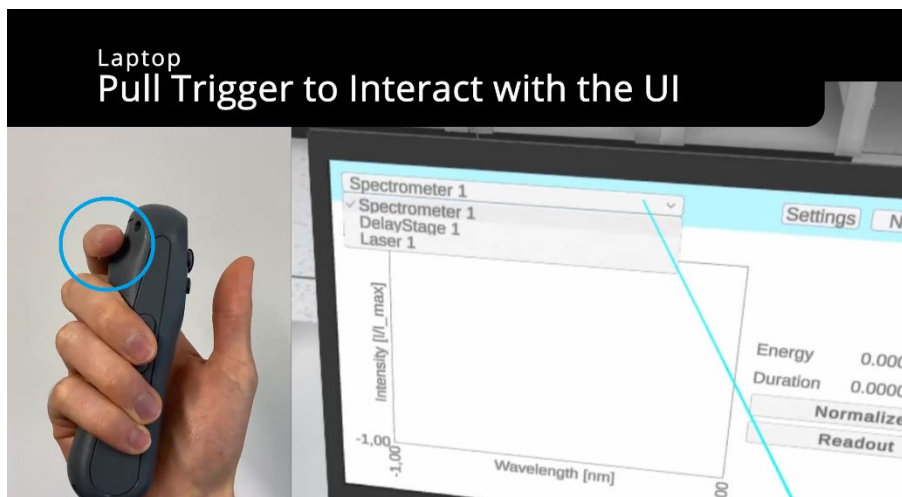

Figure 4. Interact with a user interface (UI) using the trigger button. UI elements can be selected by a light blue pointer.
The **trigger button** is also used to interact with **user interfaces (UI)** like those on the laptop (Section 3.1) or the folder (Section 3.2). Once you approach the laptop display with a virtual hand, a light blue **pointer** will appear with which you can navigate on the UI. Selecting UI elements is performed with the trigger button (Fig. 4).
can interact with the laptop user interface by approaching the display with your virtual hand until a light blue pointer occurs (see also Fig. 4).